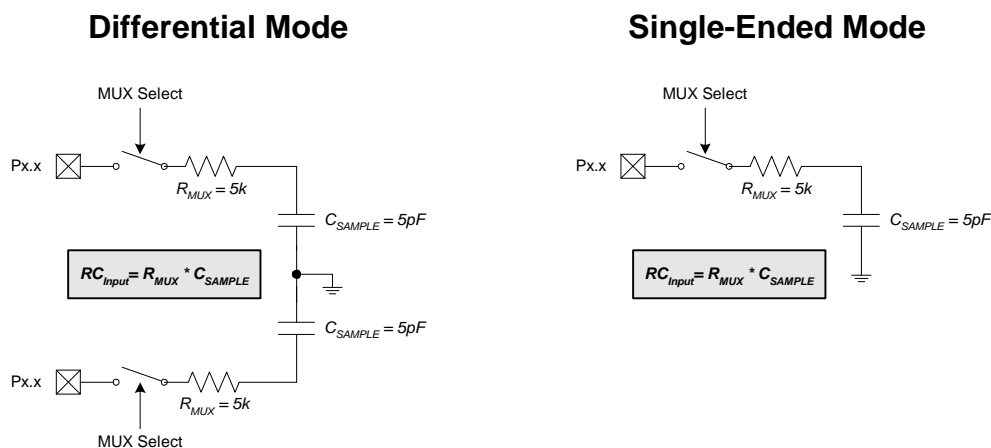

Figure 5.4. ADC0 Equivalent Input Circuits
Figure 5.4 shows the equivalent ADC0 input circuits for both Differential and Single-ended modes. Notice that the equivalent time constant for both input circuits is the same. The required ADC0 settling time for a given settling accuracy (SA) may be approximated by Equation 5.1. When measuring the Temperature Sensor output or V_{DD} with respect to GND, R_{TOTAL} reduces to R_{MUX} . See Table 5.1 for ADC0 minimum settling time requirements.